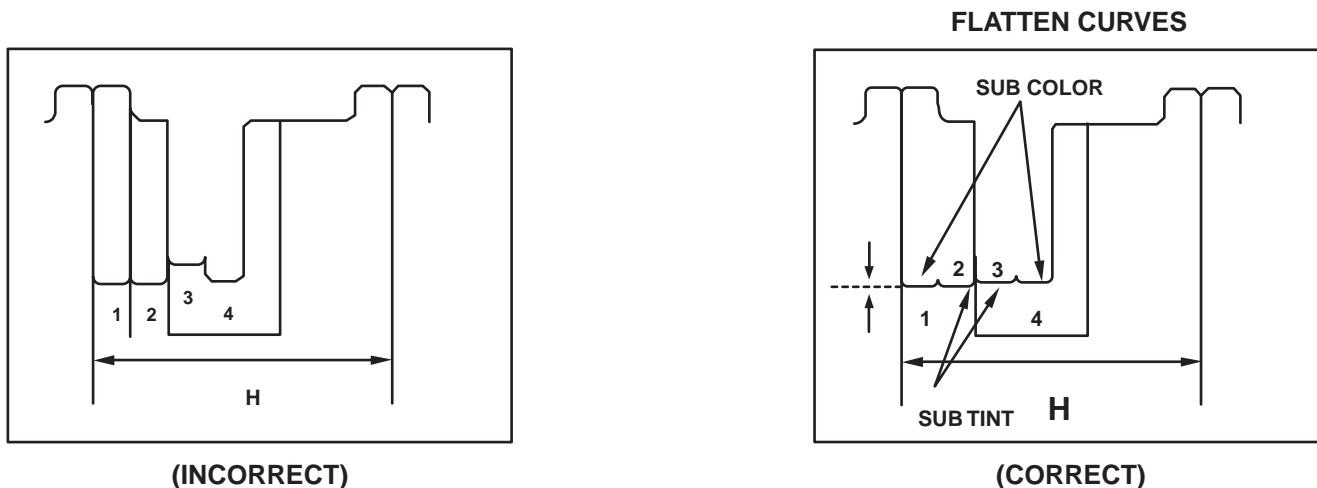

Fig. 2
5. Go to Adjustment Mode (1) by remote control.
6. Select SUB TINT from Adjustment Mode (1) menu screen.
7. Adjust SUB TINT level (by using + or - button on remote control) so that waveform is the same as shown in Fig. 2.